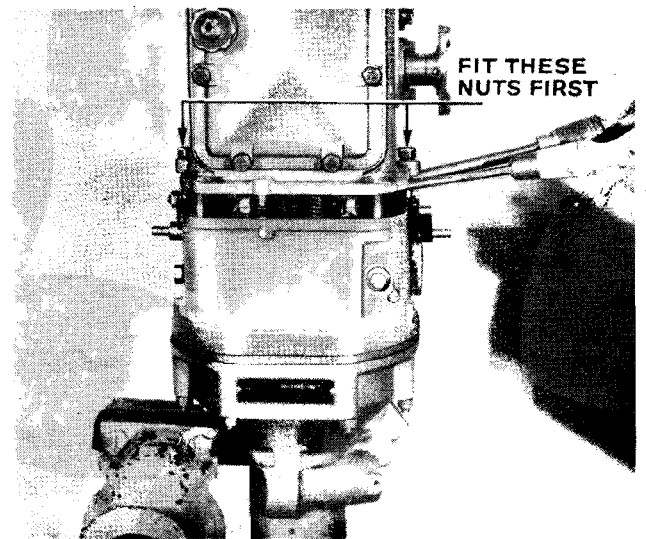

Fig. 4. Fitting gearbox to Overdrive Unit.
17. Fit the gearbox assembly to the overdrive unit, holding the latter vertically in the vice as shown in Fig. 4. Whilst carrying out